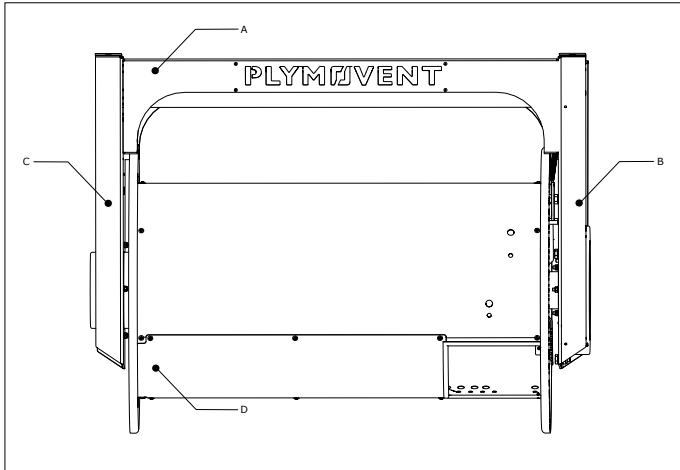

Fig. 2.1 Product components
The product consists of the following main components and elements (fig. 2.1):
- Dismantle drum lid by removing the philips screws (fig 2.1, D).